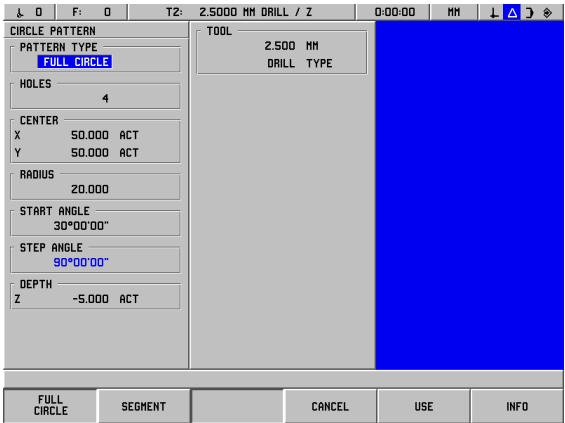
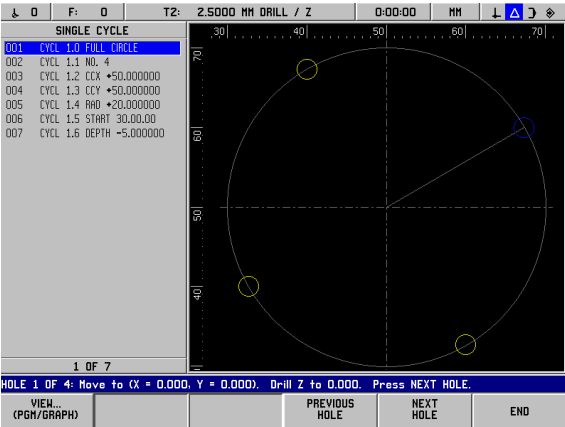

Fig. I.35 CIRCLE PATTERN form
Fig. I.36 Circle pattern graphic
**Example: Enter data and execute a circle pattern. See Fig. I.35 & Fig. I.36.**